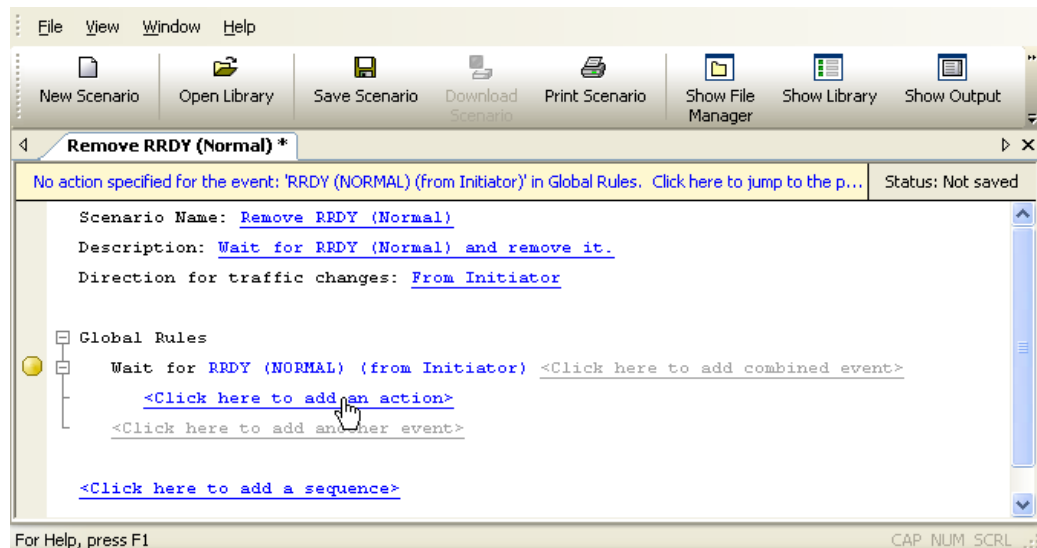

Figure 46 Example 1: Entering an Action
- Step 7** In the Global Rules area, click on the prompt to add an action (Figure 46).